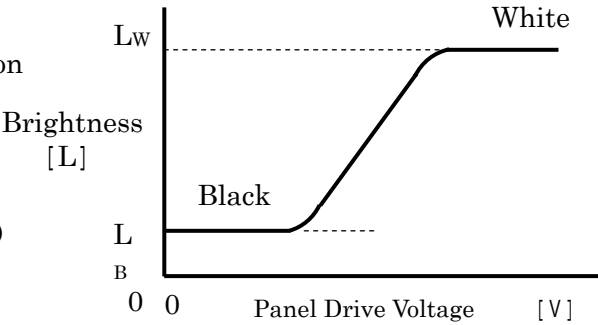

Figure 9-3 Voltage-Brightness Characteristics
Determined by Formula (1) based on Figure 9-3 Voltage-Brightness characteristics.